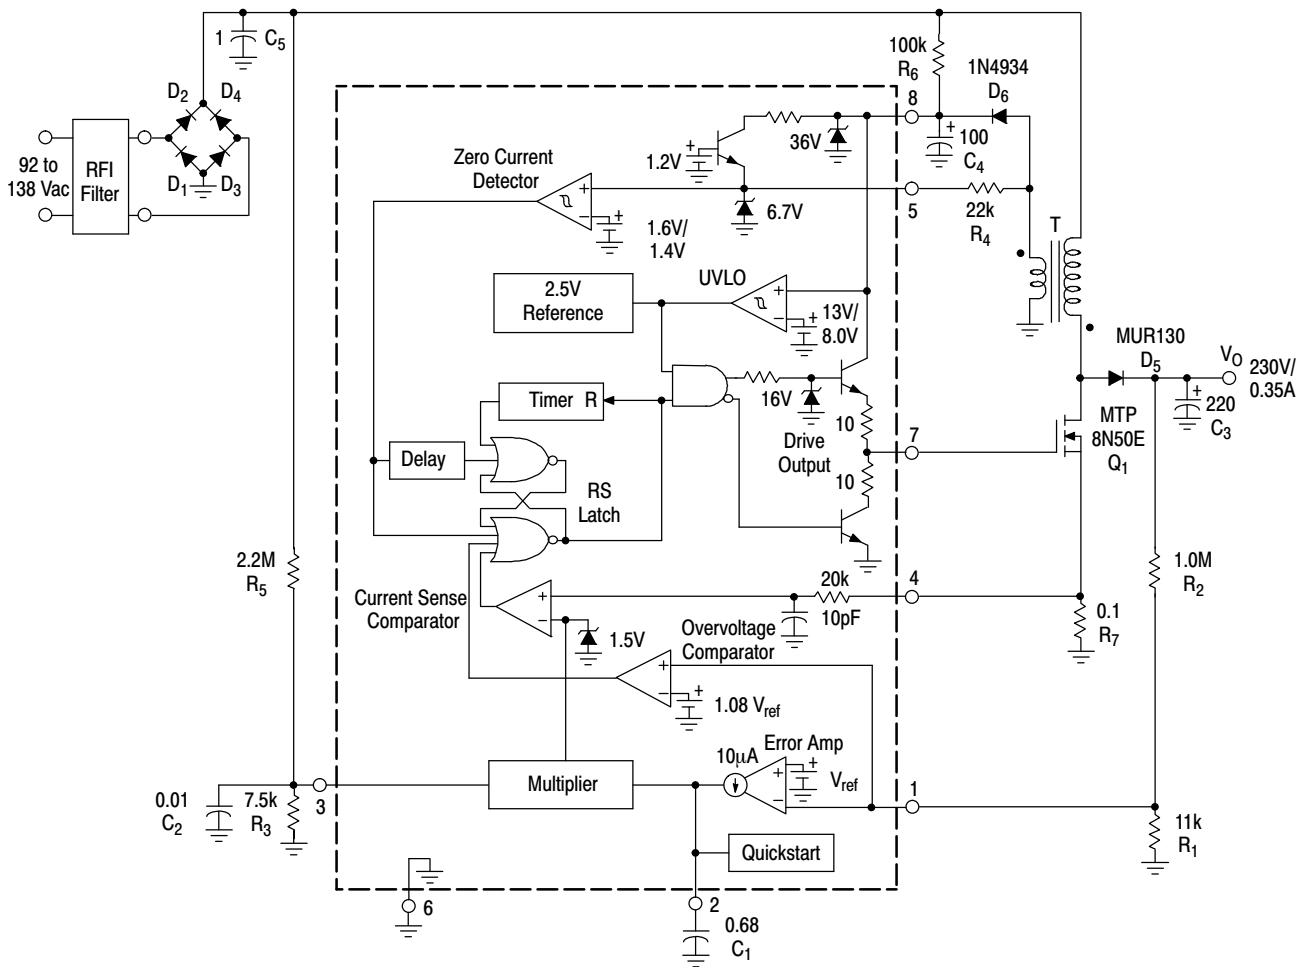
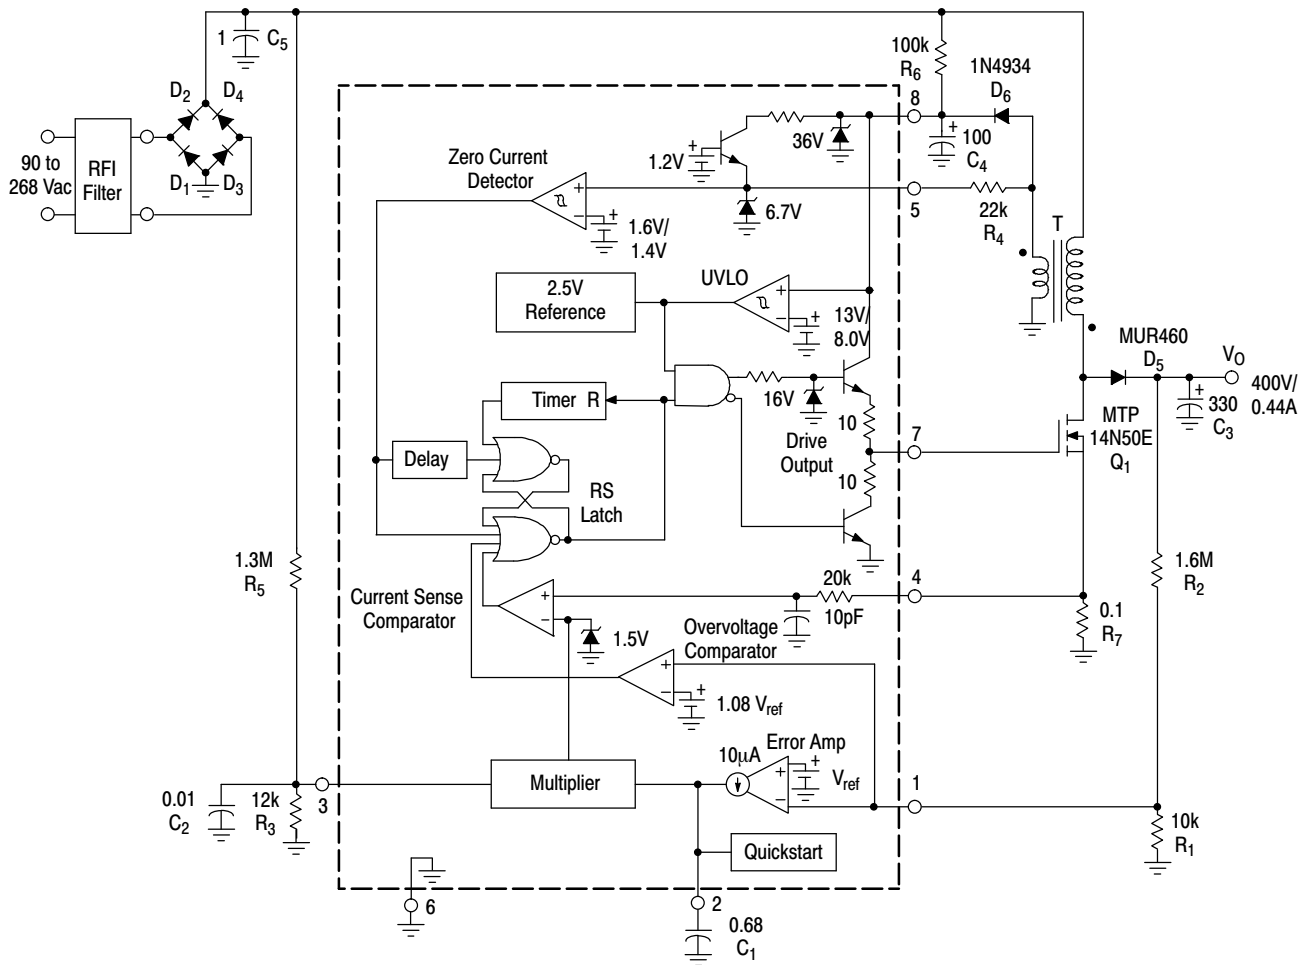
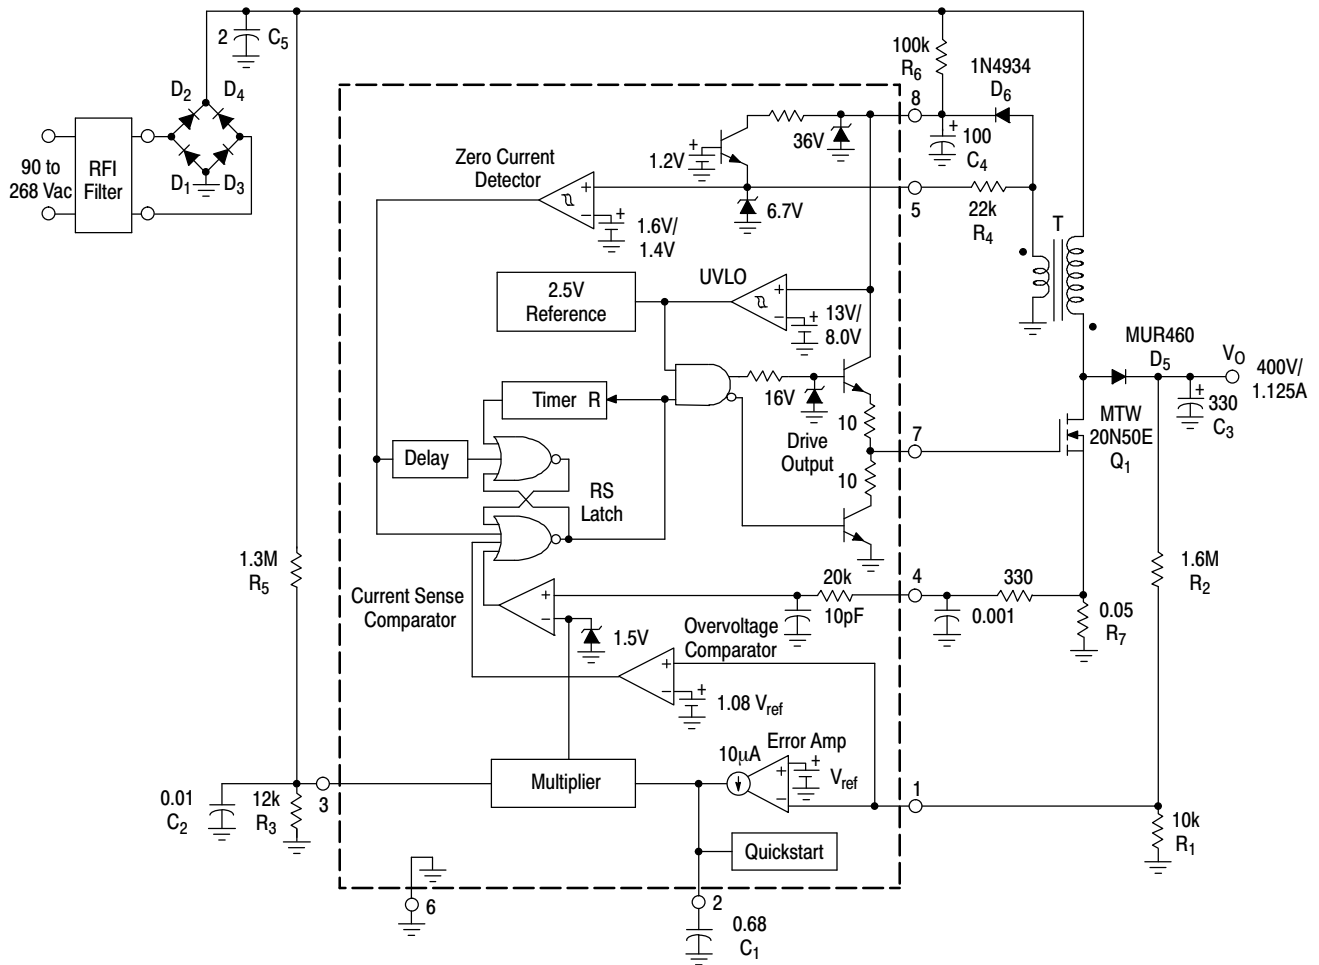

Figure 20. 80 W Power Factor Controller
Figure 21. 175 W Universal Input Power Factor Controller
Figure 22. 450 W Universal Input Power Factor Controller
UC3842 series. Referring to the block diagrams in Figures 20, 21, and 22 note that a multiplier has been added to the current sense loop and that this device does not contain an oscillator. The reasons for these differences will become apparent in the following discussion. A description of each of the functional blocks is given below.
An internal RC filter has been included to attenuate any high frequency noise that may be present on the current waveform. This filter helps reduce the ac line current distortion especially near the zero crossings. With the component values shown in Figure 21, the Current Sense Comparator threshold, at the peak of the haversine varies from 1.1 V at 90 Vac to 100 mV at 268 Vac. The Current Sense Input to Drive Output turn-off propagation delay is typically less than 200 ns.
The application circuits shown in Figures 20, 21 and 22 reveal that few external components are required for a complete power factor preconverter. Each circuit is a peak detecting current-mode boost converter that operates in critical conduction mode with a fixed on-time and variable off-time. A major benefit of critical conduction operation is that the current loop is inherently stable, thus eliminating the need for ramp compensation. The application in Figure 20 operates over an input voltage range of 90 Vac to 138 Vac and provides an output power of 80 W (230 V at 350 mA) with an associated power factor of approximately
0.998 at nominal line. Figures 21 and 22 are universal input preconverter examples that operate over a continuous input voltage range of 90 Vac to 268 Vac. Figure 21 provides an output power of 175 W (400 V at 440 mA) while Figure 22 provides 450 W (400 V at 1.125 A). Both circuits have an observed worst-case power factor of approximately 0.989. The input current and voltage waveforms of Figure 21 are shown in Figure 23 with operation at 115 Vac and 230 Vac. The data for each of the applications was generated with the test set-up shown in Figure 25.
An RFI filter is required for best performance when connecting the preconverter directly to the ac line. The filter attenuates the level of high frequency switching that appears on the ac line current waveform. Figures 20 and 21 work well with commercially available two stage filters such as the Delta Electronics 03DPCG5. Shown above is a single stage test filter that can easily be constructed with four ac line rated capacitors and a common-mode transformer. Coilcraft CMT3-28-2 was used to test Figures 20 and 21. It has a minimum inductance of 28 mH and a maximum current rating of 2.0 A. Coilcraft CMT4-17-9 was used to test Figure 22. It has a minimum inductance of 17 mH and a maximum current rating of 9.0 A. Circuit conversion efficiency  $\eta$  (%) was calculated without the power loss of the RFI filter.
(Circuits of Figures 20 and 21)